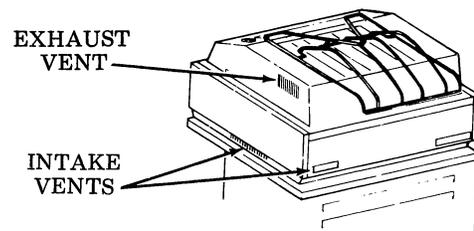

Fig. 3—Air Vents
2.03 Turn switch on and check cabinet fan operation. Air should exit from the exhaust vent on the right side of the cabinet (Fig. 3). Check that intake and exhaust vents are not blocked.